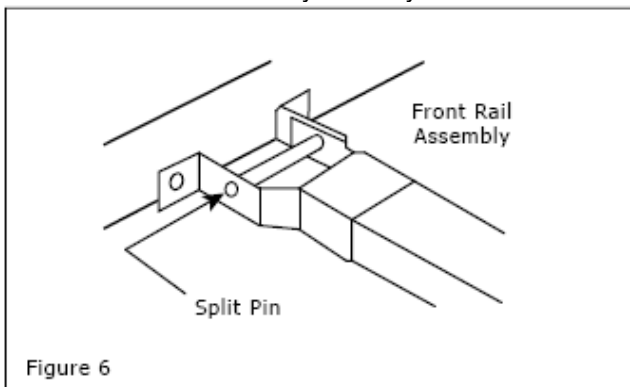

Figure 6
STEP 6 (Fig. 6) Lift and support the powerhead (with a ladder) so it is positioned centrally and level. Using the brackets supplied, mount the powerhead by attaching to the ceiling rafters or rafter noggins. There are many mounting options, however the recommended method is to use the mounting rails on the side of the powerhead, as well as the support of the chain drive rail side mounting bolts. **IMPORTANT NOTE:** In any installation the chain drive rail must be supported halfway along its length to prevent any flex in the drive rail assembly. Failure to do so will void any warranty.